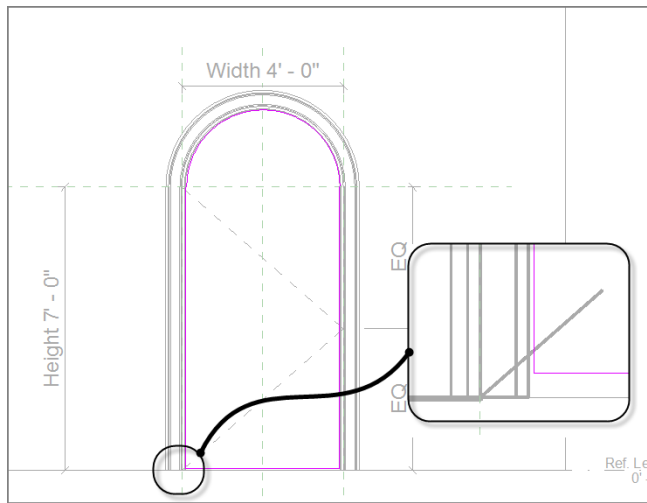

FIGURE 17.24: Adding the door
8. Offset the bottom up (see Figure 17.24).